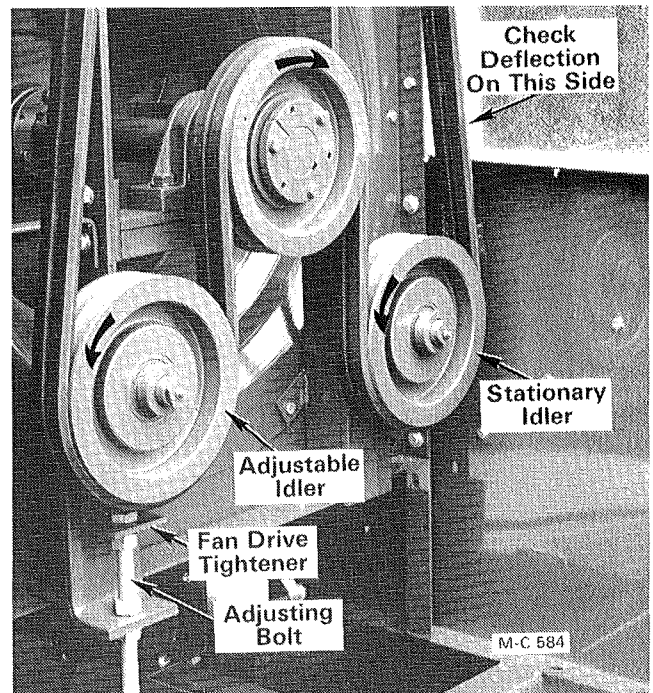

Figure 41 - PTO Fan Drive
- Loosen the nut on the adjustable idler pulley shaft and the locknuts on the adjusting bolt, see Figure 41.
- Turn the nut on the adjusting bolt to move the fan drive tightener and idler pulley down to increase belt tension, see Figure 41.